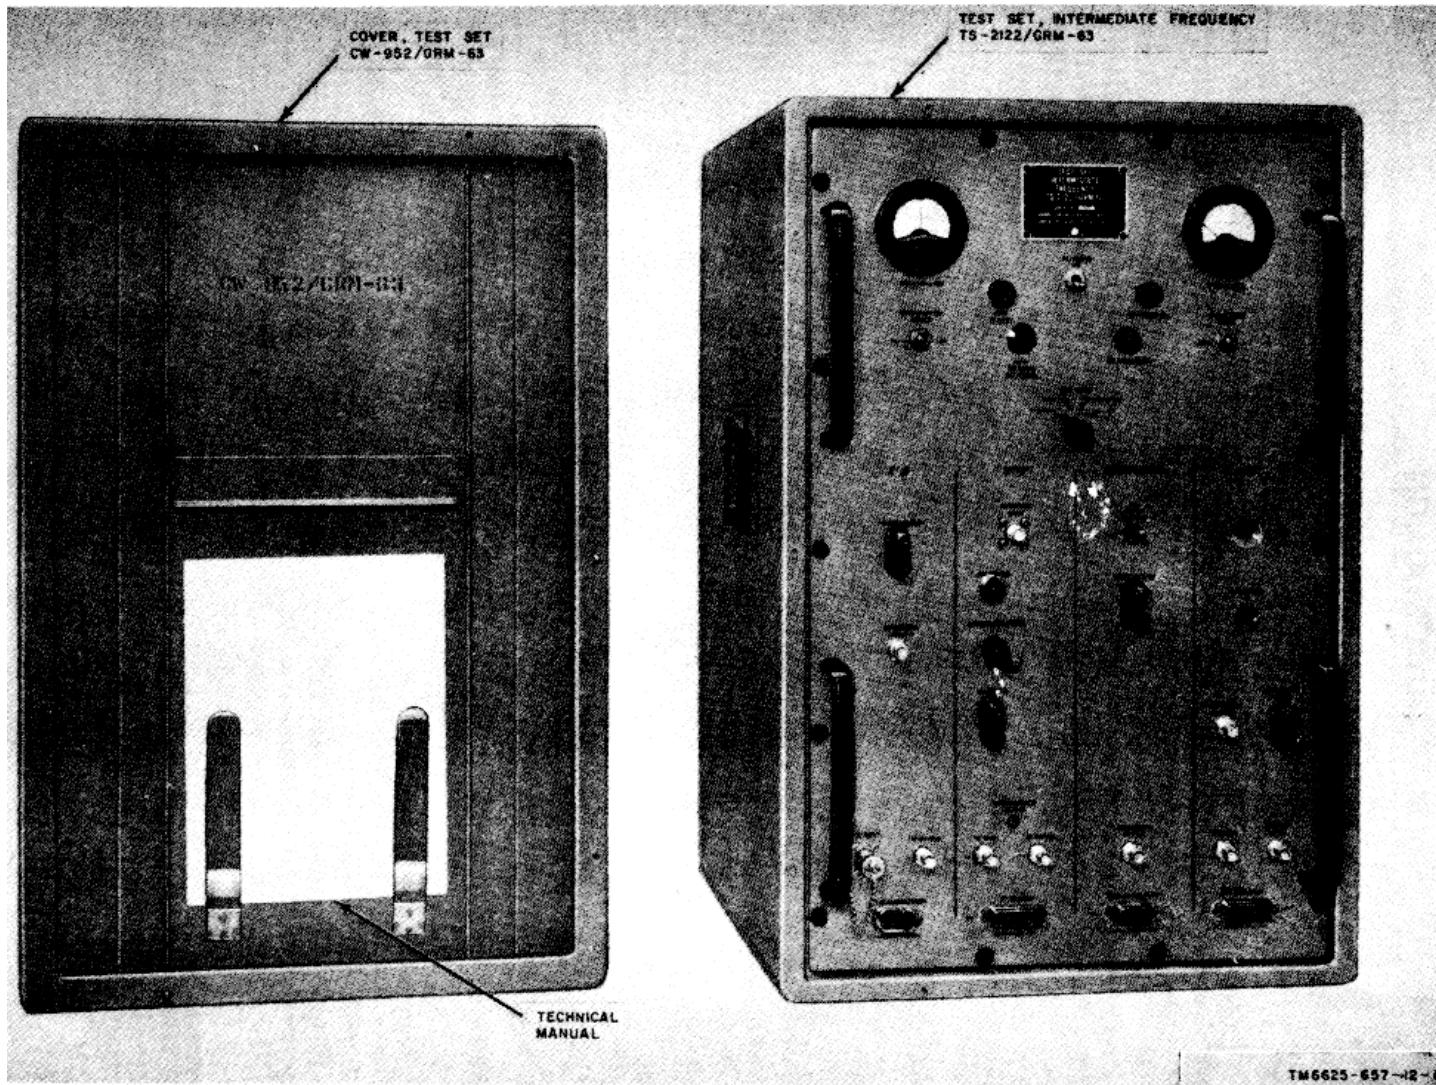

Figure 1-1. Test set, Intermediate Frequency
a. Throughout this manual describes Test Set, Intermediate Frequency AN/GRM-63 (fig. 1-1) and covers the installation, limited operation, and operator and organizational maintenance. It includes instructions for operation under usual conditions, cleaning, and inspection of the equipment, and replacement of parts available to the operator and organizational repairman.
b. Operation of the AN/GRM-63, in conjunction with other test equipment (para 1-10) to test components of Radio Set AN/GRC-50(*) (V) (para 1-5a), is covered in the maintenance manual for Radio Set AN/GRC-50(*) (V), TM 11-5820-461-35.
(1) Radio set AN/GRC-50(*) (V) represents Radio Sets AN/GRC-50(V)1, 2, 3, 4, 5, and Radio Sets AN/GRC-50A(V)1, 2, 3, 4, 5, 6, and 7.
(2) Amplifier-Converter AM-1955(*)/GRC represents Amplifier-Converters AM-1955/GRC and AM-1955A/GRC (assemblies 3A1).
(3) Amplifier-Converter AM-1956(*)/GRC represents Amplifier-Converters AM-1956/GRC and AM-1956A/GRC (assemblies 3A2).